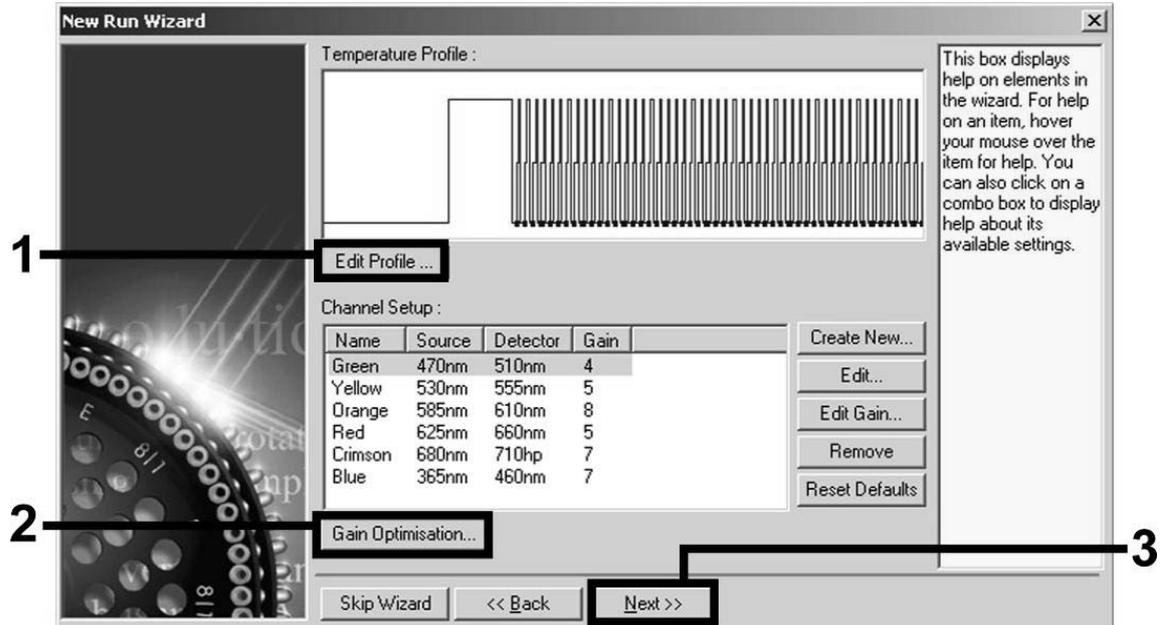
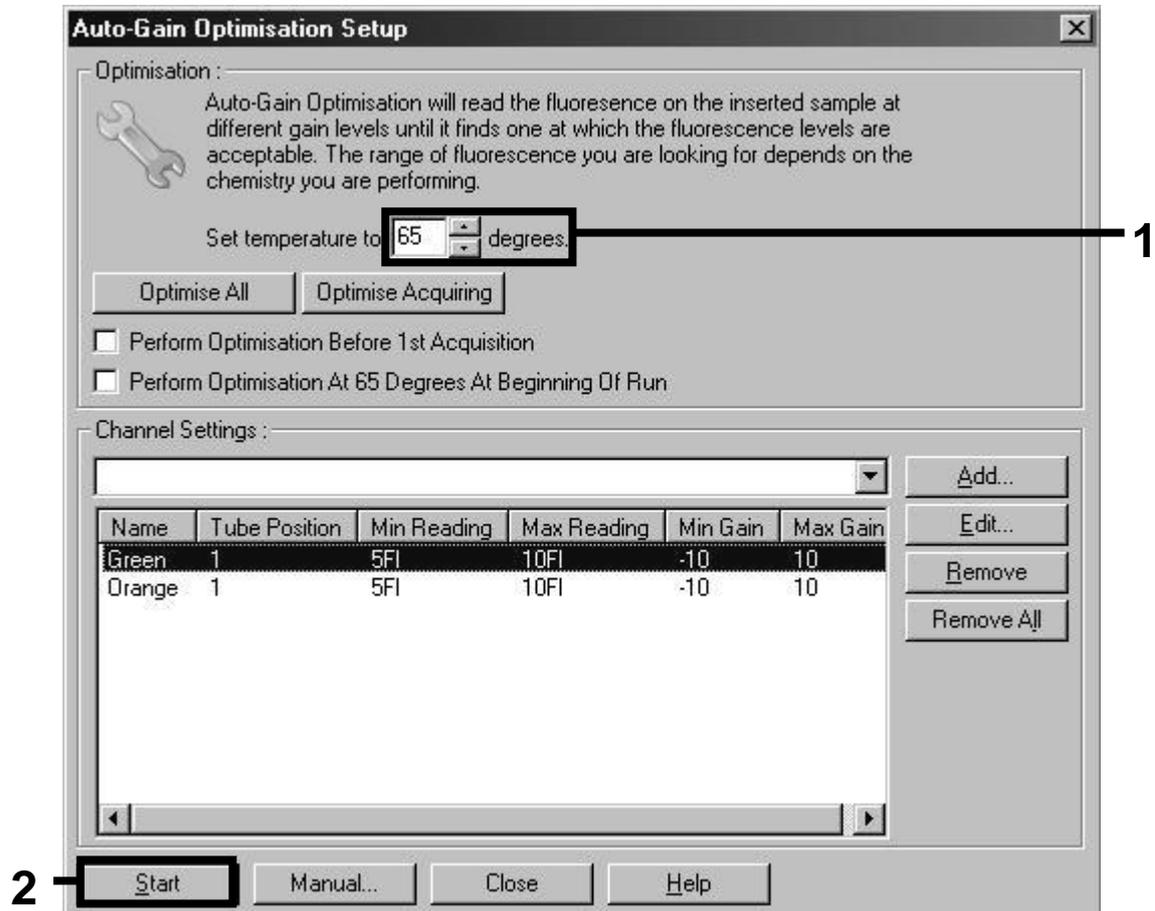

Figure 7. Editing the profile.
Figure 10. Adjusting the fluorescence channel sensitivity.
Adjusting the fluorescence channel sensitivity	Figure 10
- Click the “Edit Profile” button in the next “New Run Wizard” dialog box (Figure 7), and program the temperature profile as shown in Figures 7–9).
7. The detection range of the fluorescence channels has to be determined according to the fluorescence intensities in the PCR tubes. Click "Gain Optimisation" in the "New Run Wizard" dialog box (see Figure 7) to open the "Auto-Gain Optimisation Setup" dialog box. Set the calibration temperature to 65 to match the annealing temperature of the amplification program (Figure 10).